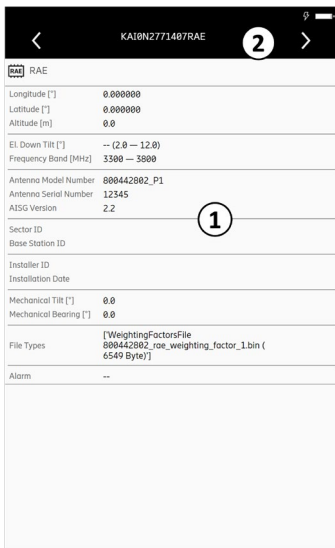

Fig. 81: Devices: Properties of the RAE subunit
1. Tap ② in Fig. 81 to open the subunit properties. The following page is shown: